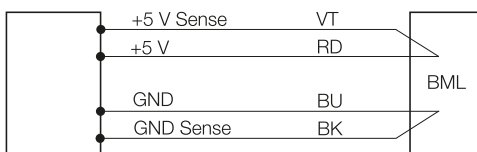

Fig. 4-4: Power supply with sense line
**i** While operating at 5 V, the operating voltage must be  $5\text{ V} \pm 5\%$ . To compensate for voltage drops in the supply, we recommend using a regulated power supply with sense input (Fig. 4-4).